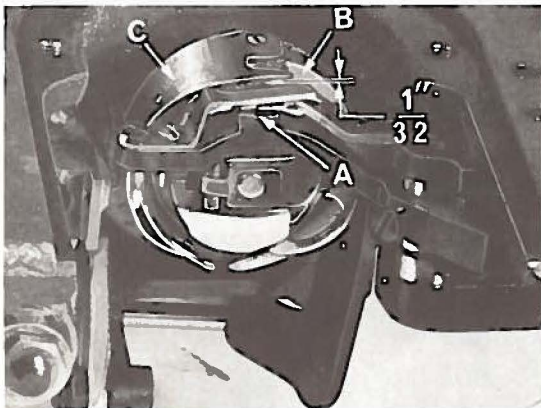

Fig. 12A
3. Assemble positioning finger and knife assembly into machine. Adjust the bobbin case holder positioning finger and knife assembly by turning the bobbin case holder until the finger recess is at the top. Place the projection (A, Fig. 12A) on the positioning finger into the bobbin case holder recess (B) and tighten the finger and knife assembly attaching screws securely, allowing 1/32 inch clearance between the outside edge of projection and the inside edge of bobbin case recess (Fig. 12A).
- (a) Rotate handwheel in operating direction until the needle clearance cut in the deflector plate (C, Fig. 12A) on the rotating hook assembly is in line with the needle on the up stroke of the needle bar.